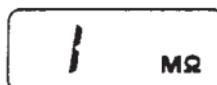

Fig. 1
4. The built-in batteries are normal if the INSUL. TEST VOLT ON indicator (red LED) lights up and the LCD looks as shown in Fig. 1.
4. When the measurement object has resistance of more than 200 MΩ at 500 V or 20 MΩ at 15 V, the LCD shows the same over-input display as that displayed when the measuring terminals are open, as shown in Fig. 1 under section [4]4-2, "Checking the Built-in Batteries" on page 5.